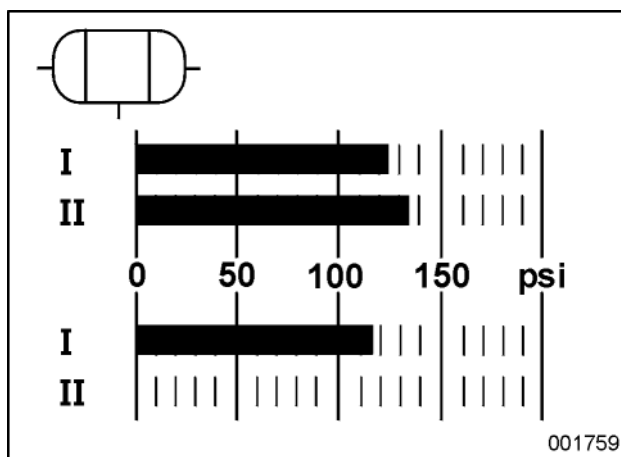

Figure 10: Bar graph showing 125 psi on the front axle (I), 135 psi on the drive axle (II) and 115 psi on the tag axle (I - beneath pressure numbers)
- The information given by the three axle air pressure gauges is now provided by the multifunction display (15, Figure 9) on a need-to-know basis or by pressing the MFD call-button once (12, Figure 9). Status is shown as a bar graph (see Figure 10) which disappears automatically after 10 seconds. Pressures are in psi units.